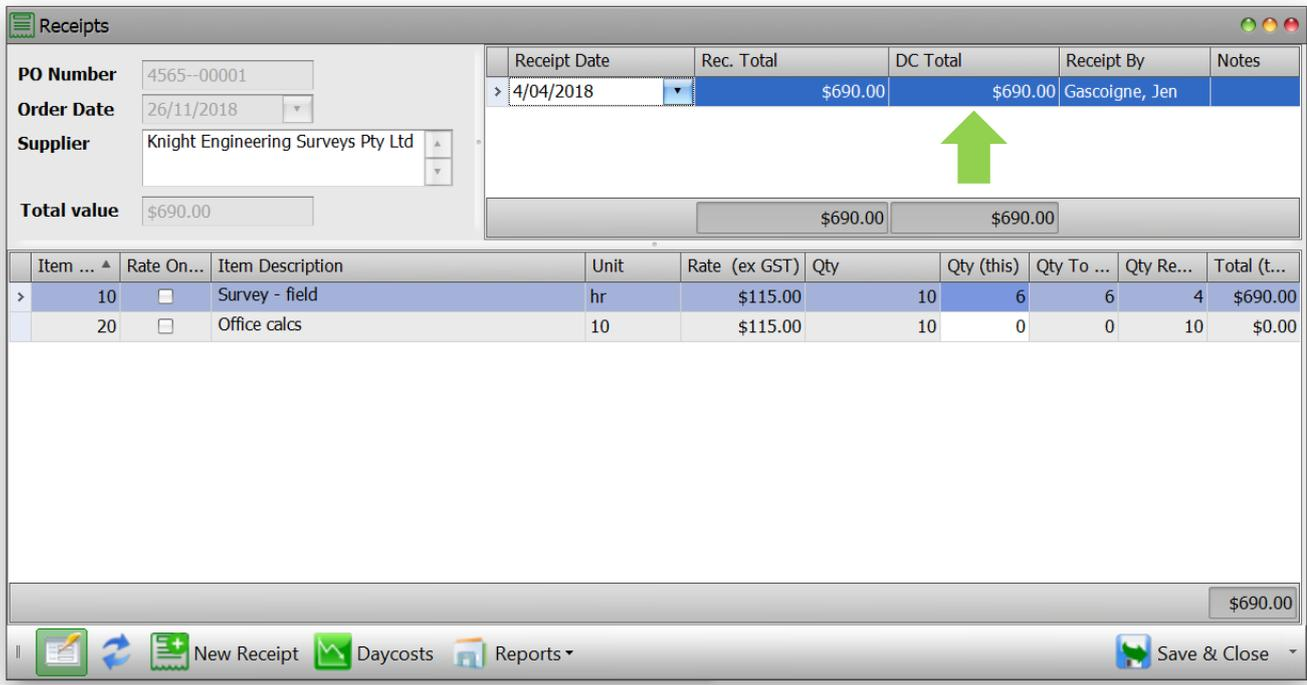

Figure 66 Updated daycost showing in receipt DC Total column
- You will now see that the PO receipt total now also appears in the 'DC Total column' in the Receipt summary section at the top right of the Receipts screen (Figure 66)